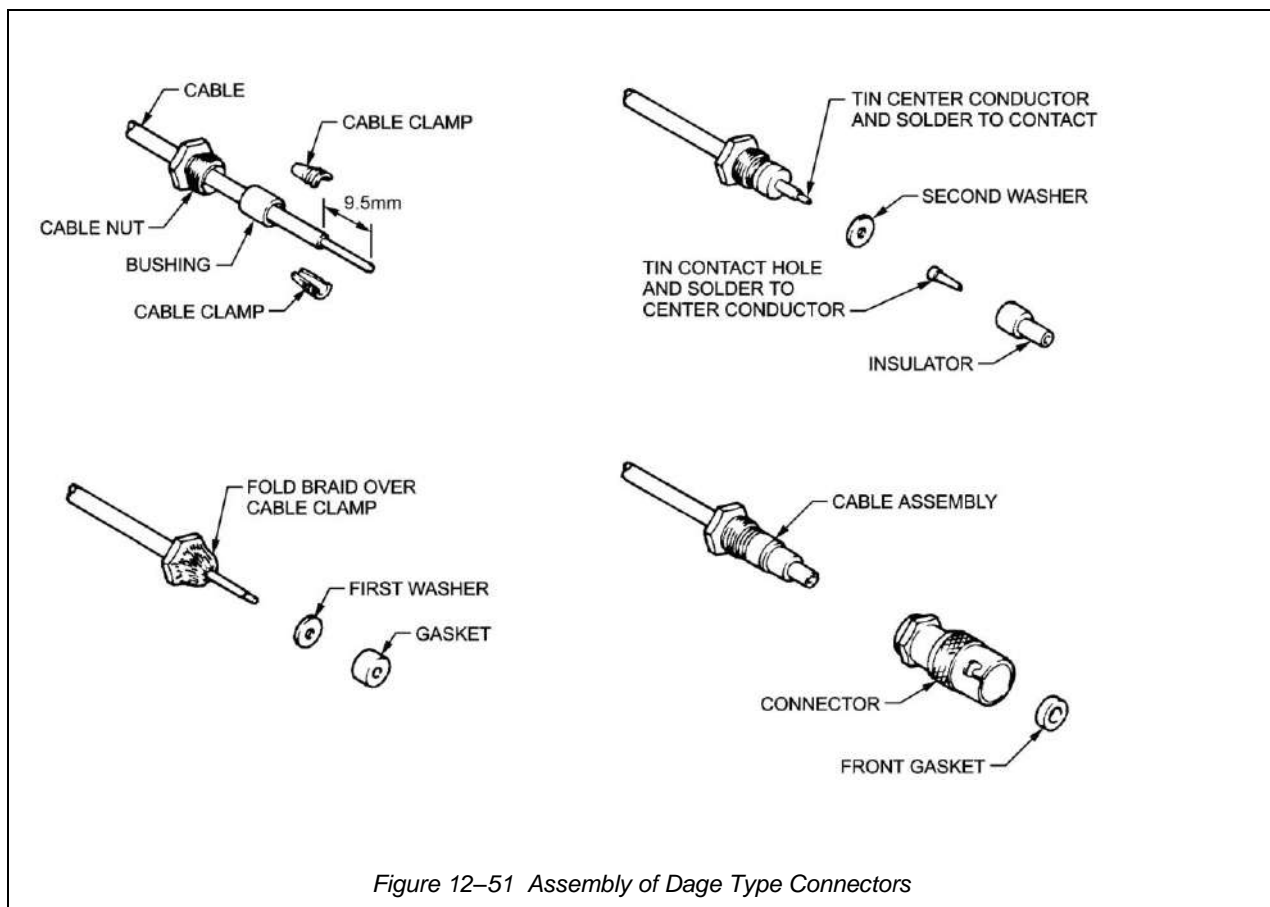

Figure 12-51 Assembly of Dage Type Connectors
- e. Place cable clamp in place making sure end of clamp is flush with end of outer jacket. (See Figure 12-51.)